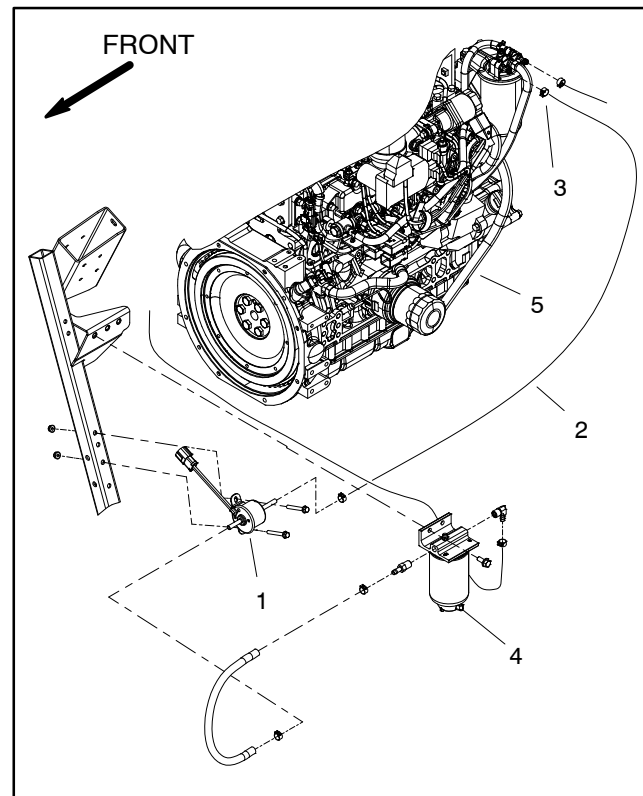

Figure 58
The fuel pump is attached to the air cleaner mount below the fuel water separator (Fig. 58).
2. Disconnect fuel pump discharge hose from the fuel filter attached to the engine (Fig. 58).
5. Collect fuel in the graduated cylinder by turning ignition switch to the ON position. Allow pump to run for thirty (30) seconds, then turn switch to OFF.
6. The amount of fuel collected in the graduated cylinder should be approximately **11.8 fl oz (350 ml) after thirty (30) seconds**.